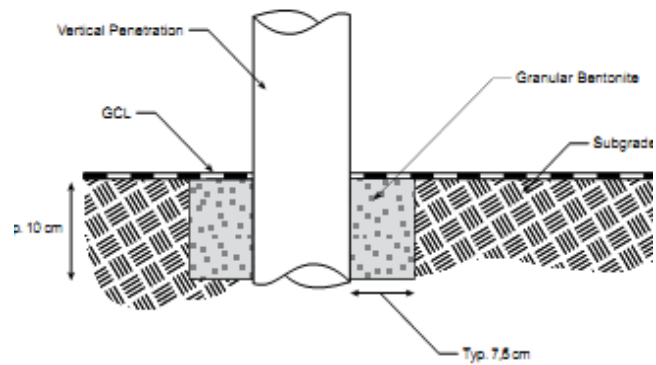
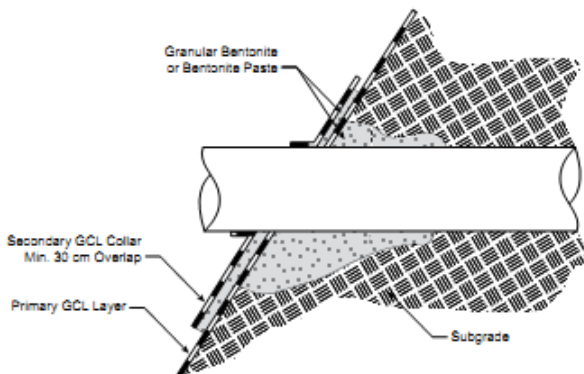

Fig. 15: Cross-section of a vertical penetration
Fig. 13: Cross-Section of a horizontal pipe penetration
2. The **Claymat GCL** should be sealed around penetrations and structures embedded in the subgrade in accordance with Figures 13 through 16. Granular bentonite shall be used liberally (min. 0,4 kg/m) to seal the **Claymat GCL** to these structures.
3. When the **Claymat GCL** is placed over a horizontal pipe penetration, a "notch" should be excavated into the subgrade around the penetration (Figures 13 & 14). The notch should then be backfilled with either granular
4. Vertical penetrations are prepared by notching into the subgrade as shown in Figure 15. A secondary collar can be placed as shown in Figure 13 & 14.